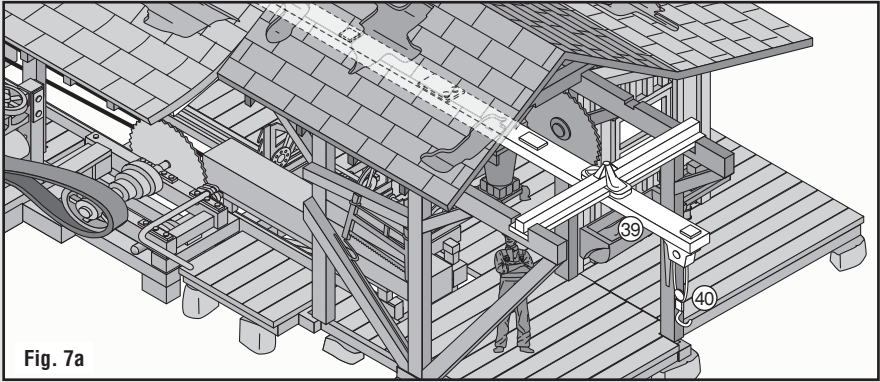

Fig. 7a
- Glue Trolley Beams (39) into notches on Frame Posts (30) and (31), and to underside of Trusses (37, 38, and 34) (Fig. 7a).
- Glue Trolley Hook (40) into groove on underside of Trolley Beam (Fig. 7a).